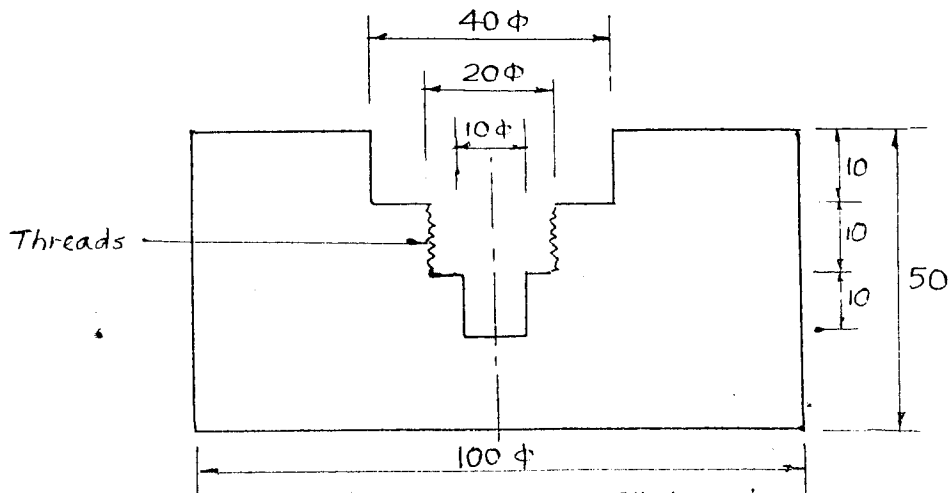

Fig.4.(c) All dimensions are in mm
- c. Show the tool layout of turret drilling machine for the product shown in fig. 4(c).